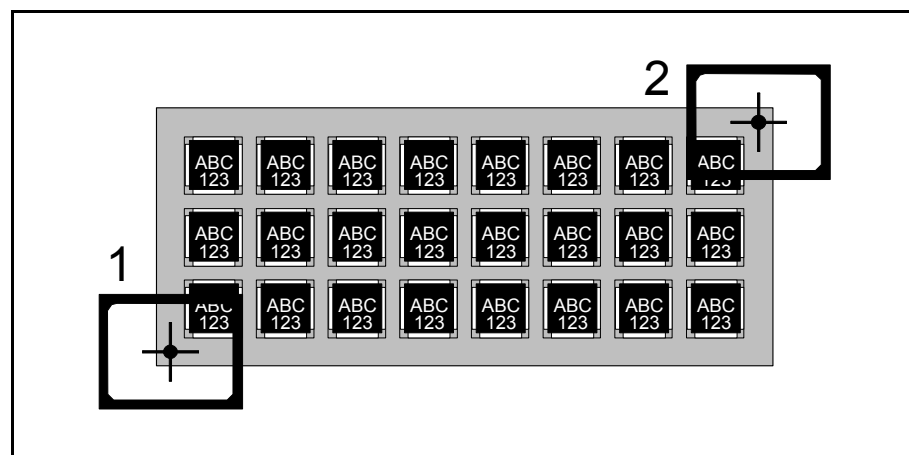

Figure 5-11. Positioning fiducial marks
Figure 5-11 shows the cross hairs on the first fiducial mark (1) and on the second fiducial mark (2).